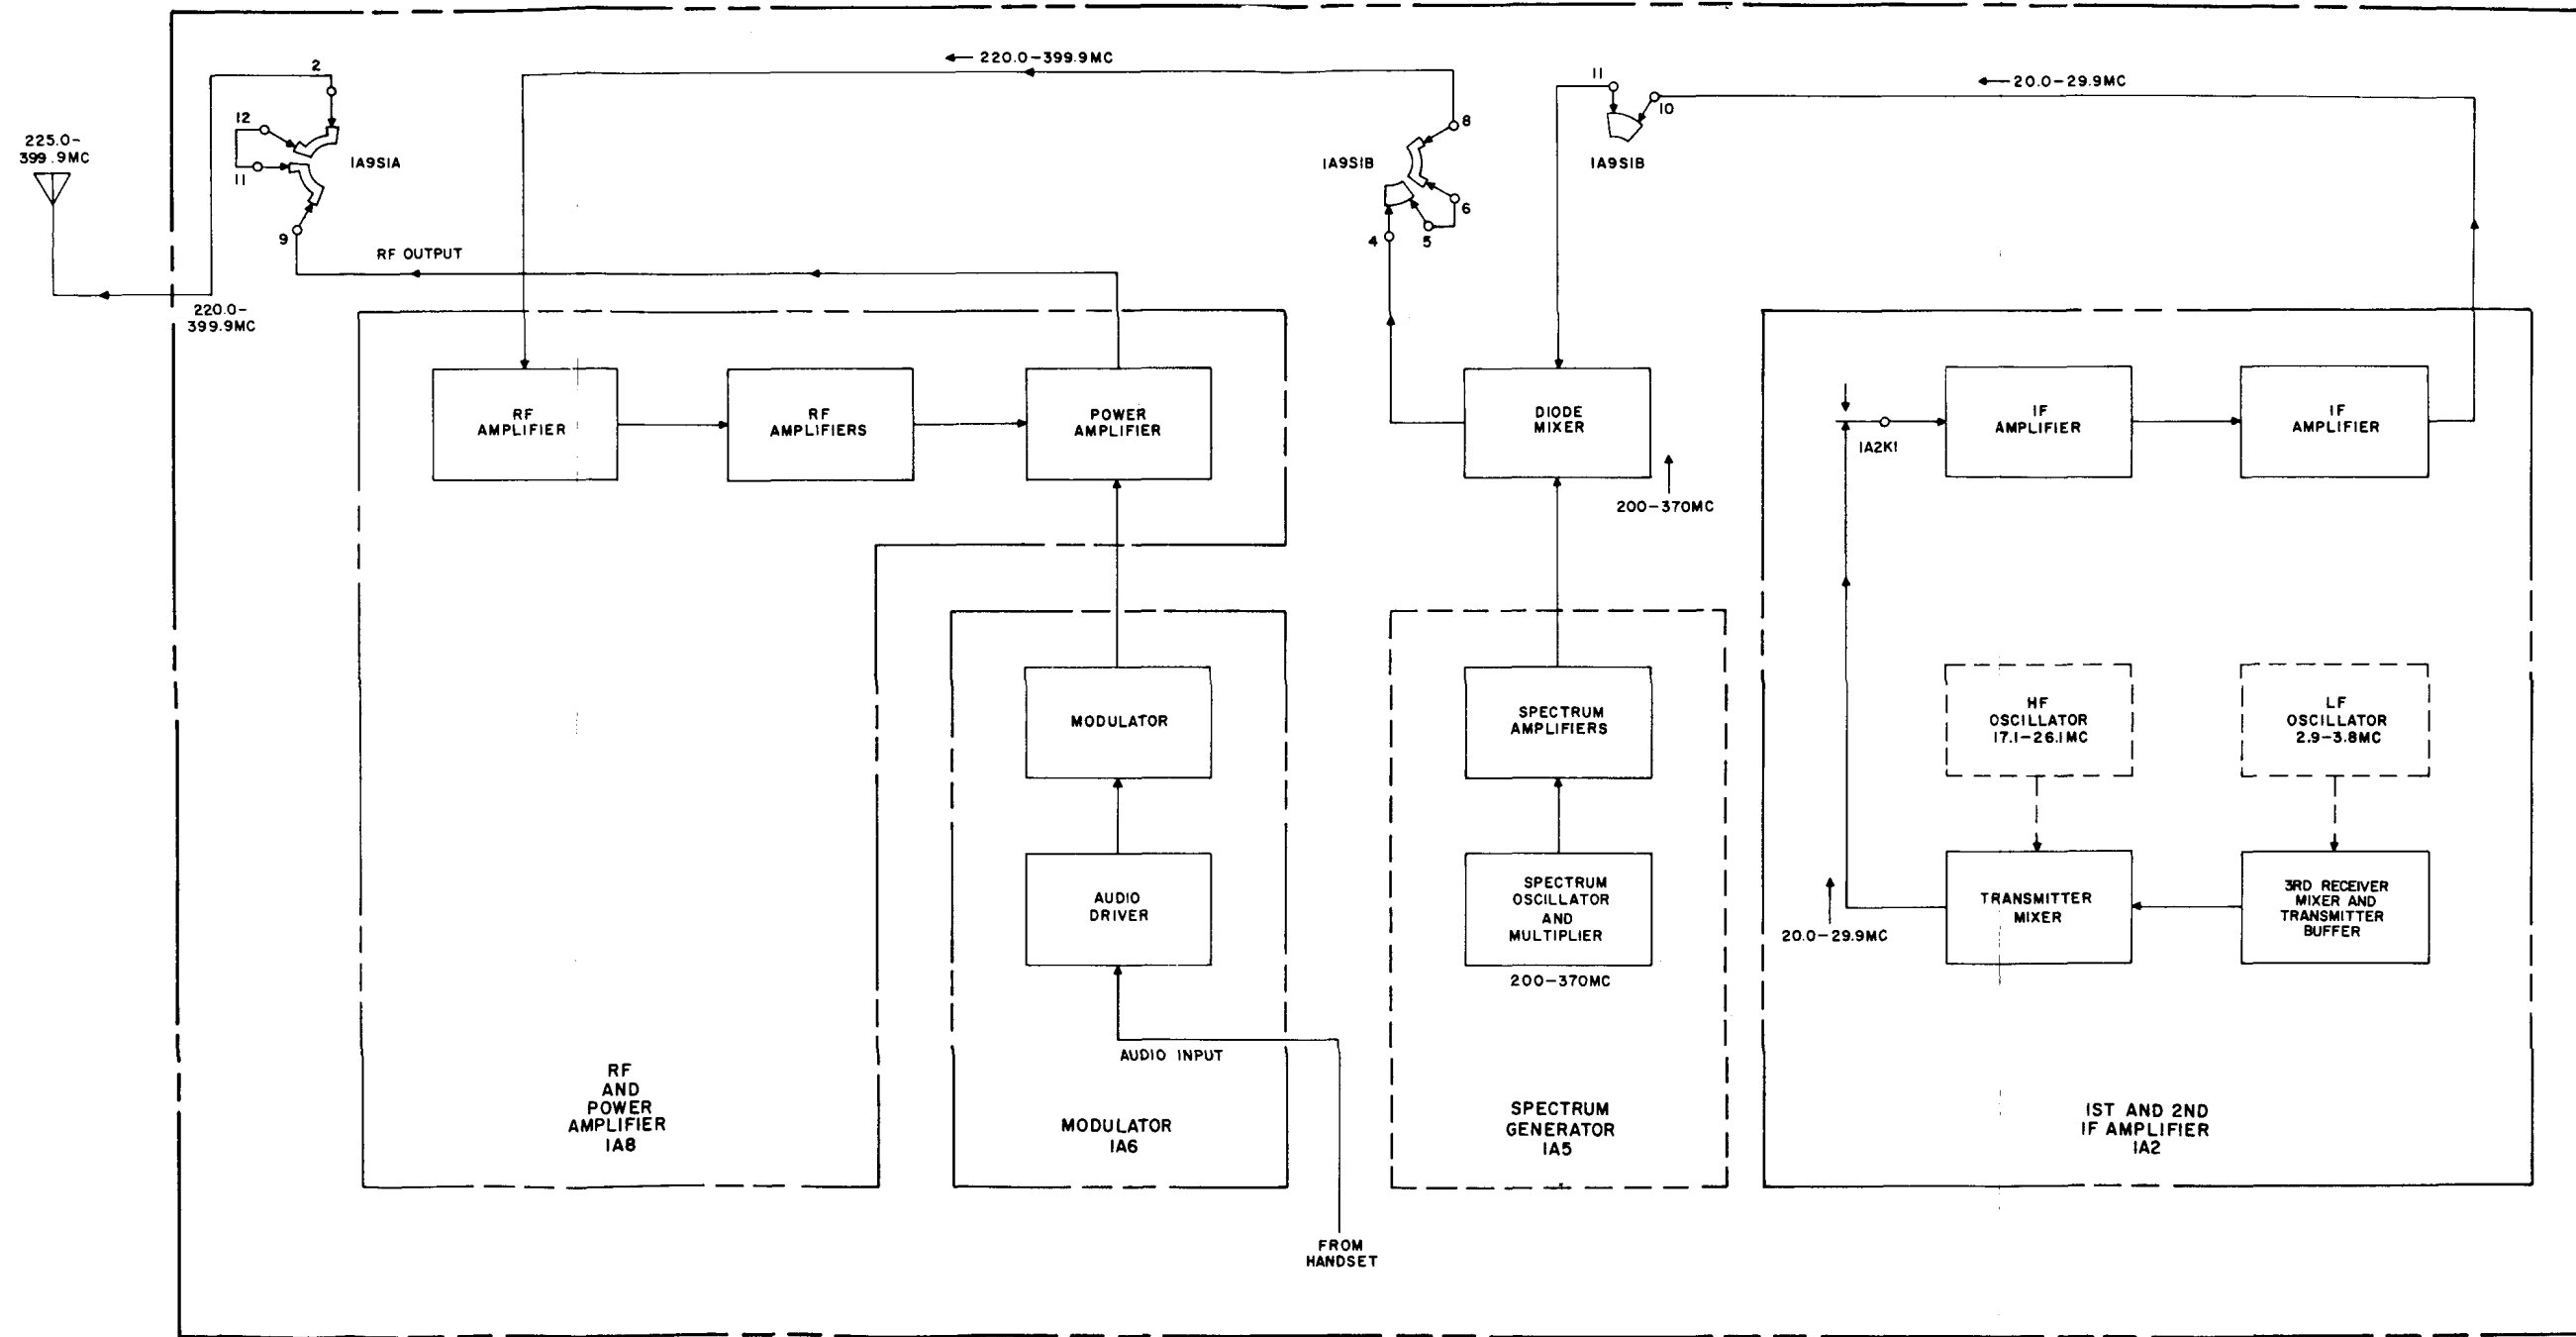

Figure 4-5. Radio Receiver-Transmitter RT-695/PRC-41,
a. DESCRIPTION. - Refer to figure 4-5. The transmitter functional section is composed of the circuits of the modulator, r-f and power amplifier, and 1st and 2nd i-f amplifier modules along with the switching and interwiring of the main chassis of the RT-695/PRC-41. The transmitting circuits use, with some switching differences in the 2.9- to 3.8-mc crystal circuits, the same crystal-controlled frequency generating circuits as the main receiver. Refer to figure 4-10. In transmit operation, the 2.9- to 3.8-mc injection frequency is the same as the second intermediate frequency. The 2.9- to 3.8-mc low-for 225.0 mc. frequency injection oscillator frequency of the 1st and 2nd i-f amplifier module is mixed with the high-frequency injection oscillator frequencies to produce r-f signals between 20 and 29.9 mc. The 20- to 29.9-mc signals are amplified in the 20- to 29.9-mc i-f amplifier stages of the 1st and 2nd i-f amplifier module and applied through the contacts of receive-transmit switch 1A9S1B to diode mixer 1A9CR1. The 20- to 29.9-mc signals are mixed with the 200- to 370-mc signals from the spectrum generator module in diode mixer 1A9CR1 to produce a carrier between 225.0 and 399.9 mc. An audio input signal from Handset H-33E/PT is applied to the input of the modulator module. The output from the modulator module is applied to the driver and power amplifier stages of the r-f and power amplifier module. The carrier is modulated in the driver and power amplifier of the r-f and power amplifier module by the audio from the modulator module and applied to the antenna for radiation. All tunable circuits in the transmitter functional section are mechanically linked to the three control knobs located on the front panel of Radio Receiver-Transmitter RT-695/PRC-41.
- (1) FUNCTIONAL DESCRIPTION. - The transmitter functional section is composed of the circuits of the modulator, r-f and power amplifier, and 1st and 2nd i-f amplifier modules along with the switching and interwiring of the main chassis. The discussion of the circuits of the transmitter functional section is presented by module in the order of signal flow. Refer to the transmitter functional section block diagram, figure 4-5, as an aid in understanding the theory of operation of the transmitter functional section.